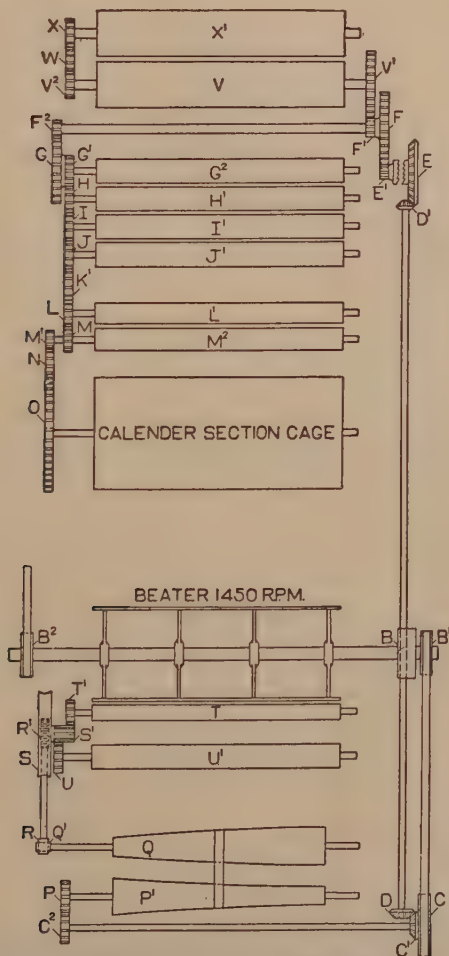

Figure 2. INTERMEDIATE OR FINISHER PICKER
Breaker and intermediate or finisher pickers are very similar. Hence, any discussion of breaker pickers serves as an introduction to finisher pickers. Figure 2 shows the gearing of a finisher picker. Consider the cones,  $P^1$  and  $Q$ , as two pulleys connected by a belt. When the thick place in the breaker picker lap goes over the feed roll  $T$  an automatic *evener motion* shifts the cone belt to the right, thereby slowing up the cone  $Q$ , and consequently the feed roll  $T$  slows up and feeds the thick spot into the beater at a slower speed. Similarly, a thin spot shifts the cone belt to the left. Consider the spiral gears,  $R$  and  $Q^1$ , as two bevel gears with an equal number of teeth.  $R^1$  is a double worm. Hence,  $R^1$  in one revolution takes up two teeth on the worm gear  $S$ .  $P$  and  $C^2$  are change gears. Some pickers have only one change gear.
As will be seen from figure 2, shifting the cone belt changes the speed of the feed rolls which of course changes the draft. When slight draft changes are to be made the cone belt is moved by the hand wheel. Large changes are made by changing the change gears.
Some of the gearing and pulley combinations of figure 2 are shown in the following table.
EXAMPLE: Find the draft of the intermediate picker in figure 2 with gearing shown in combination 1 of the preceding table, basing the draft on the normal position of the cone belt; and the change gears  $C^2$  and  $P$  having 45 teeth each.
10. Find the draft of the intermediate picker in figure 2 with gearing shown in combination 1; normal position of cone belt; and  $C^2$  and  $P$  having 40 and 50 teeth respectively.
11. Find the draft in figure 2; gearing as shown in combination 1; normal position of cone belt; and  $P$  and  $C^2$  having 40 and 50 teeth respectively.
(f) If the 43-tooth driven gear found in the above example gives us too heavy a weight of lap, must we shift the cone belt in figure 2 to the right or left?
on the picker in figure 2 to insert a draft of 4.00 with combination 1 and the cone belt in normal position?